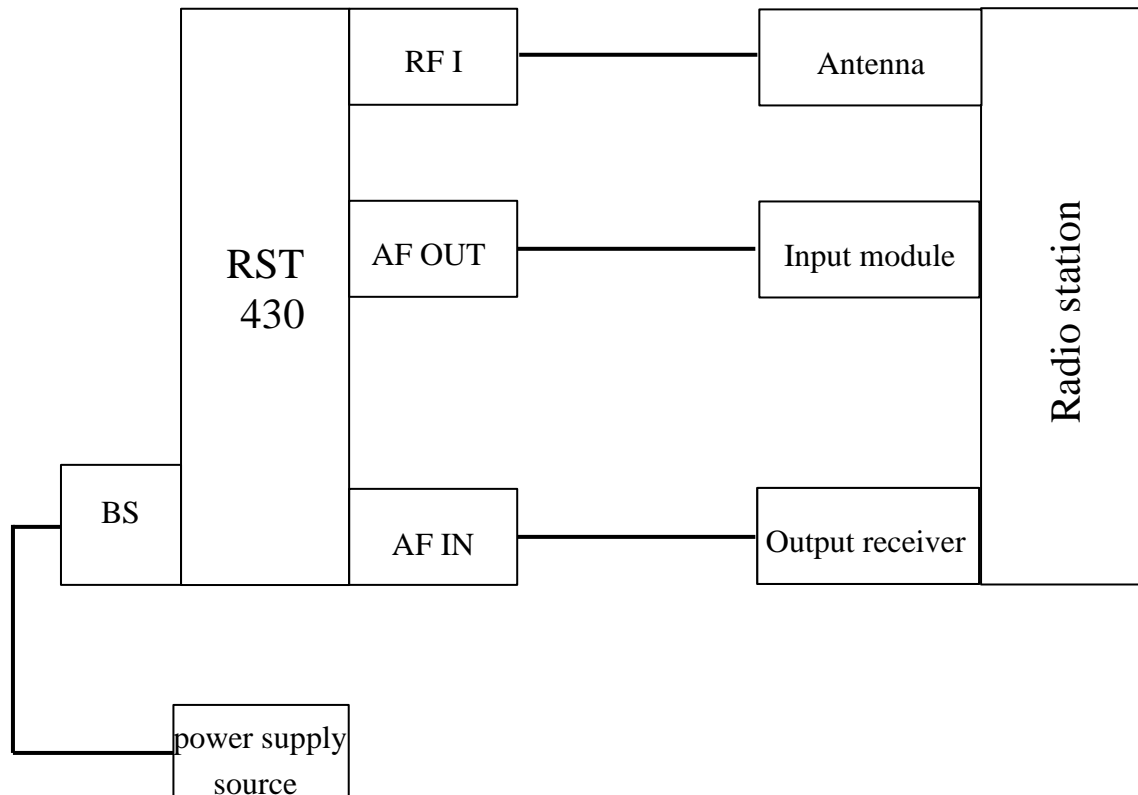

Fig.2
- 4.5. Connect the tester and the checked radio station according to fig.2.